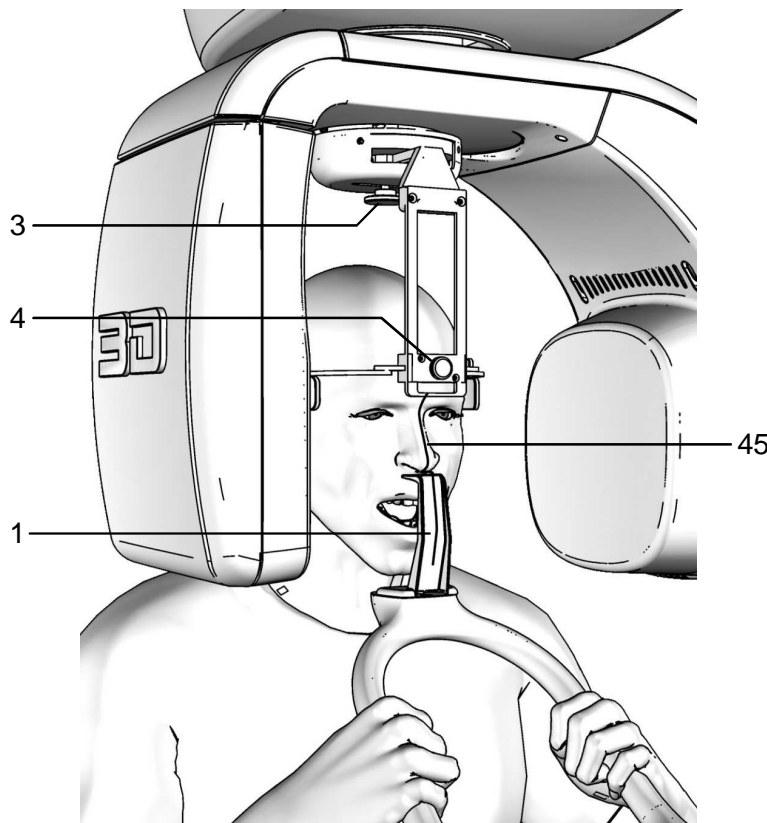

Figure 17 – Open mouth examination positioning
3. Position the patient again if he has been removed from the centring device (Figure 17). Tell him to open his mouth (helping him to keep in position using appropriate mechanical devices - not supplied - if necessary).
7. Place the temple clamp in contact with the patient's head by means of the appropriate knob (Figure 17).
8. Press the key "Patient Entrance" (7)  to confirm the